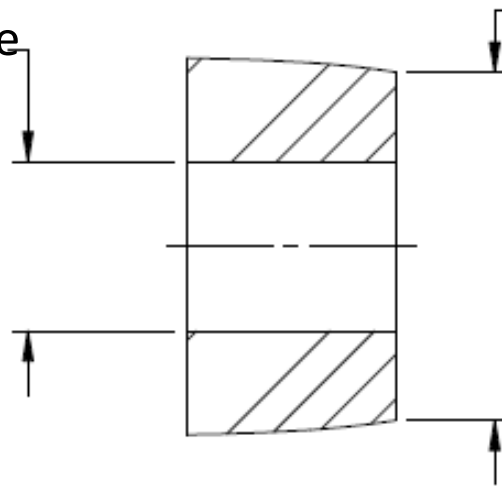

Figure 28
- The external diameter must be bigger than 16.5 mm (see figure 28)
- The internal diameter must be smaller than 9 mm (see figure 28)